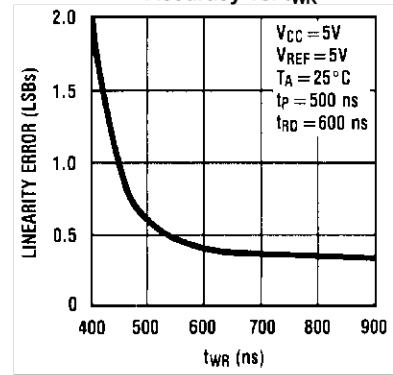
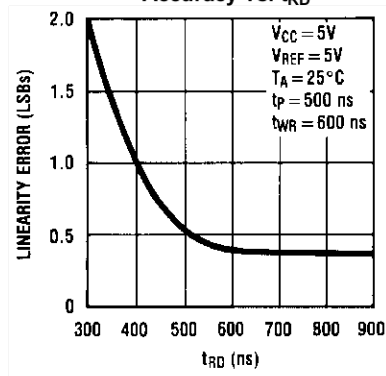

Figure 11.
Figure 12.
(4) Accuracy may degrade if t_{WR} or t_{RD} is shorter than the minimum value specified. See Figure 11 and Figure 12 graphs.